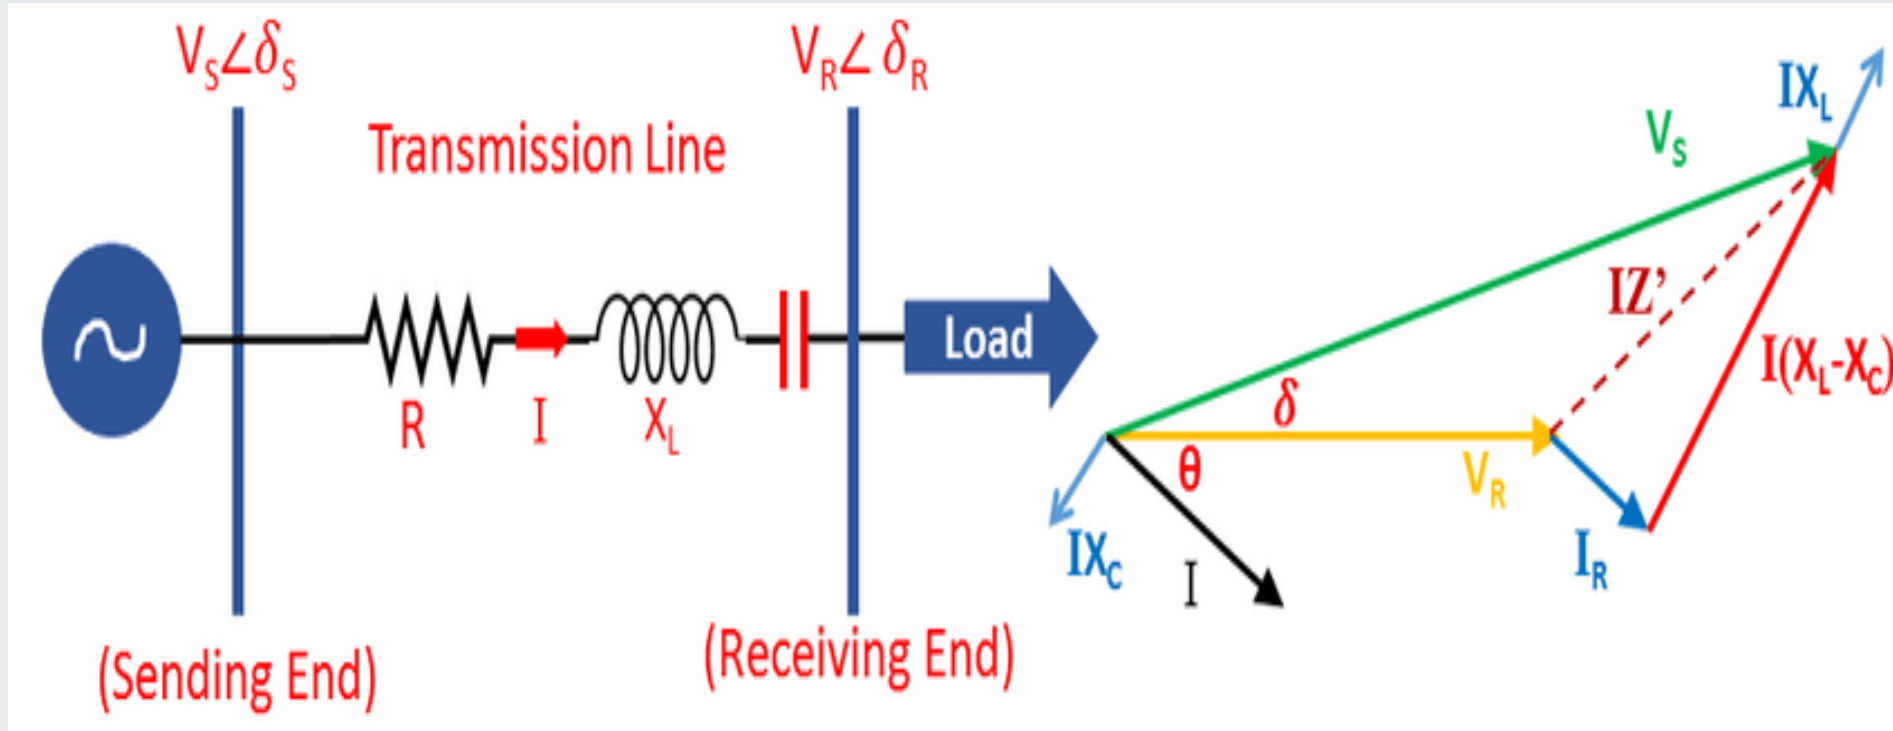

Figure 3. Series compensated Transmission Line.
- a. Series Compensation: This method uses capacitors placed in series with the line. As shown in Fig. 3, these capacitors help sustain voltage levels and lower the transmission line's overall reactance by counteracting the inductive reactance of the line by supplying leading reactive power.